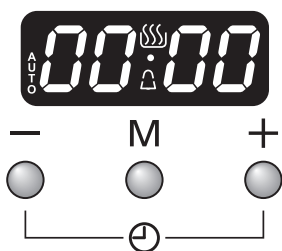

Fig. 2.22
1. Press the mode [M] button once (Fig. 2.22). The bell symbol (🔔) will flash on the display. Select the desired countdown from 00:01h to 23:59h using the [+] button (Fig. 2.23). The countdown will automatically begin and the (🔔) symbol will show in the display.